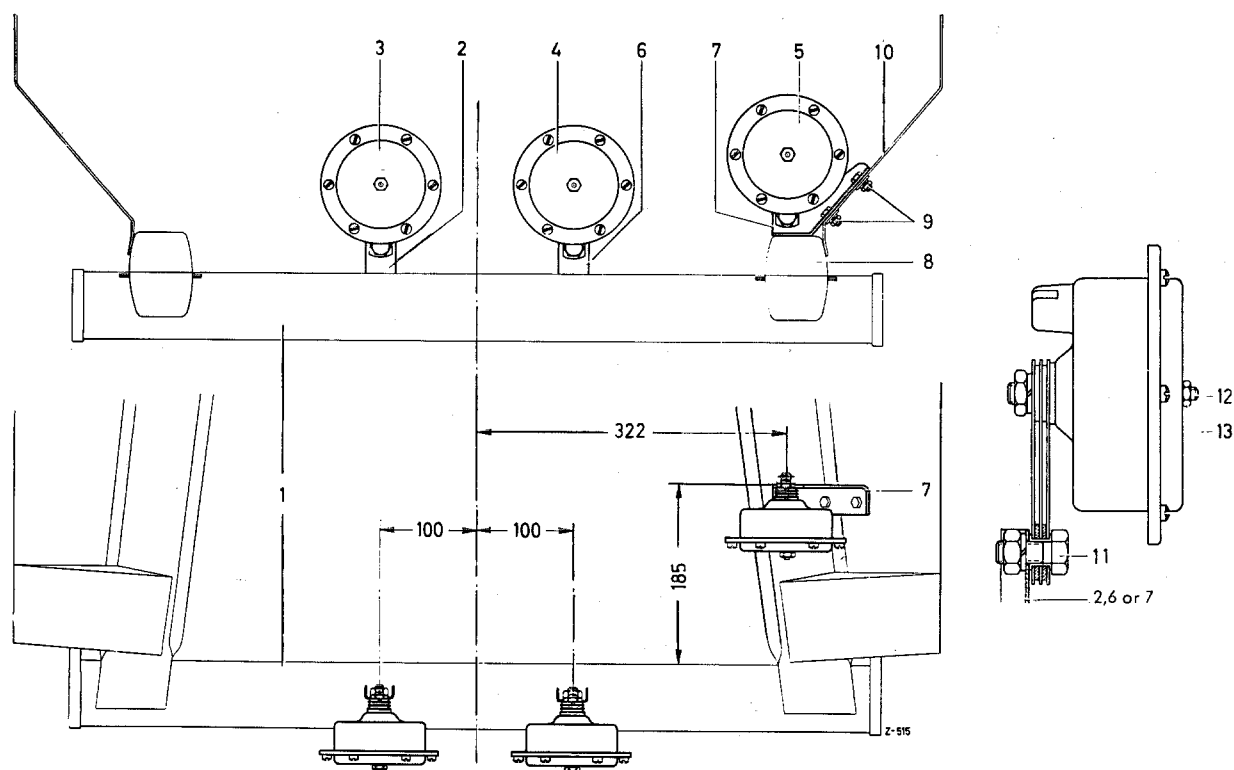

Fig. 54 — 15/1
3. Unscrew the hexagon screw (11) (see Fig. 54 — 15/1) and take off the disk-type horn (4) together with the flexible suspension.
2. Remove the standard Bosch or Hella disk-type horn (4) which is mounted on the front cross tube (see Section A).
3. Screw the Bosch two-tone extra-loud horn HO/FSA 12 3/8 A (horn with deep tone) onto the bracket (6) of the disk-type horn which was removed.
4. Hold the bracket (7) in accordance with the specified dimensions (see Fig. 54 — 15/1) on the left fork support (8) and against the wheel arch assembly (10). With the bracket in this position, mark the bores for the two hexagon screws (9) of the bracket on the wheel arch assembly (10) and bore out with a 6.5 mm diameter drill. Clean the bores and fix the bracket (7) with the two hexagon screws (9) M 6 × 15 with nuts, lock washers and washers.
5. Screw the Bosch two-tone extra-loud horn (5) HO FSA 12 4/8 A (horn with medium tone) with the hexagon screw (11) M 10 × 28